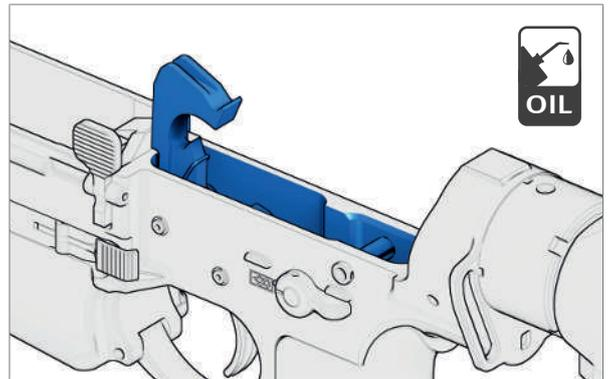

Fig. 116: Lubrication points on lower receiver
3. Lubricate lubrication points of lower receiver (Fig. 116).